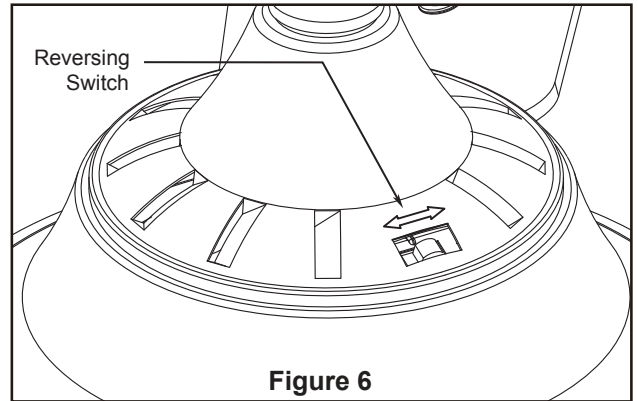

Figure 6
6. Remove one of the three screws in the socket plate assembly. Slightly loosen the remaining two screws. Assemble the light plate assembly to the socket plate assembly using the two key slots in light plate assembly. Replace the third screw and securely tighten. (Figure 6)
6. If airflow is desired in the opposite direction, turn the fan off and wait for the blades to stop turning. Then slide the reverse switch on top of motor assembly to the opposite position and turn fan on again. (Figure 6 )